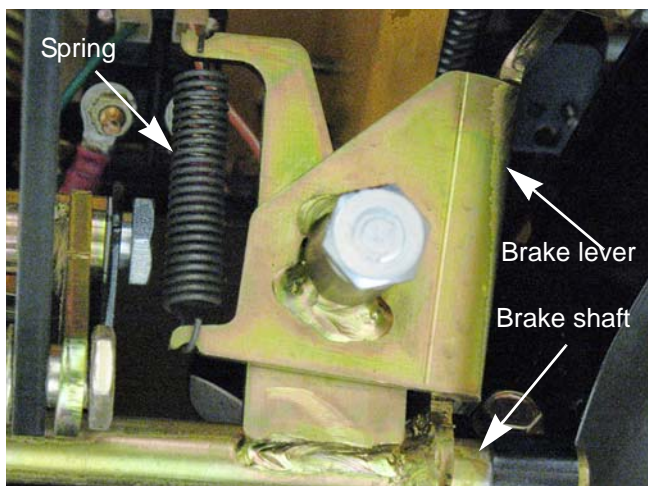

Figure 3.14
7. Remove the extension spring that runs from the brake lever to the brake shaft. See Figure 3.14.